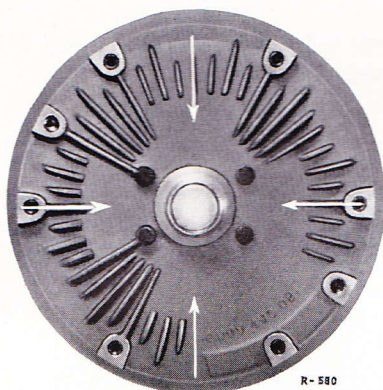

Fig. 25-1/8
19. Turn the flywheel on the crankshaft to the point where two of the humps which lie between two of the threaded bores, point vertically downward (arrows in Fig. 25-1/9).